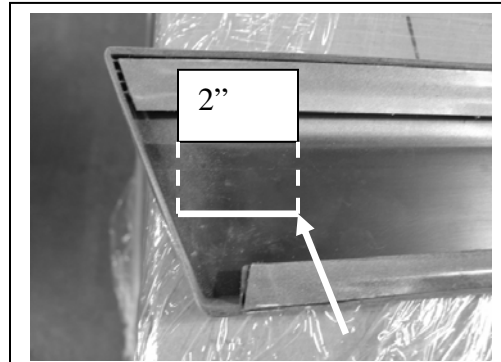

Figure 1
1. Using 80-grit sandpaper, sand the two tabs that run the length of each door cladding; repeat on both door claddings (Figure 1).
4. Cut a section of 3M double sided clear tape (00-9006-C08519*) to fit on each tab. (Figures 1,2)
2. Create a cylinder shaped pile of urethane $\frac{3}{4}$ inch tall, and about the size of a quarter in diameter. Center the pile midway between the two tabs, and 2 inches from the front of the cladding. (**Figure 1**).